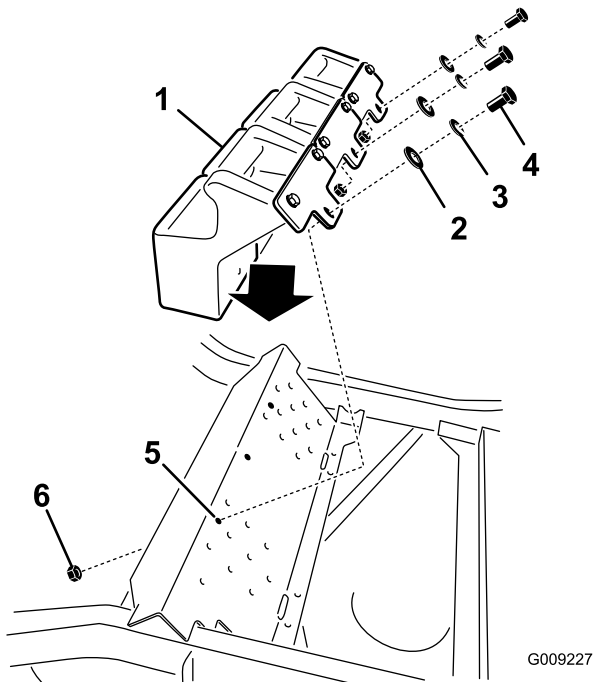

Figure 35
5. Install the front weights on top of the footrest (Figure 35).
6. Secure the front weights on top of the footrest and to the weight-mount bracket with 6 bolts (3/8 x 1 inch), 6 lock washers (3/8 inch), 3 flange nuts (3/8 inch) and 6 flat washers (3/8 inch) as shown in Figure 35.